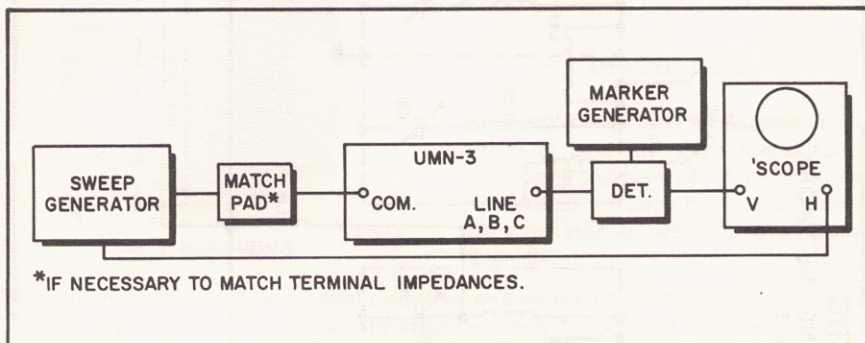

Fig. 2. Setup for Alignment by the Sweep Signal Method
1. Connect equipment as shown in Fig. 2.